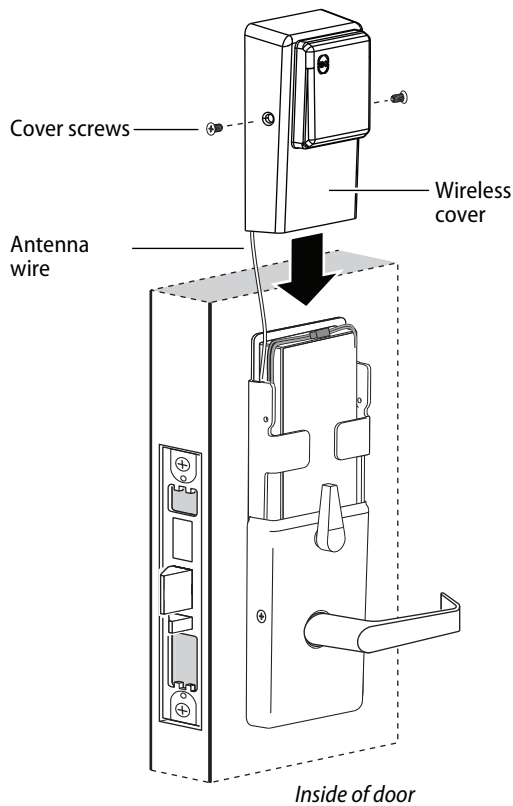

Figure 17 Installing the top cover
- 2 Place the top cover against the door and above the fire plate. Slide the top cover down toward the bottom cover as shown in Figure 17.
- 3 Use two cover screws to secure the cover to the side of the fire plate, as shown in Figure 17.